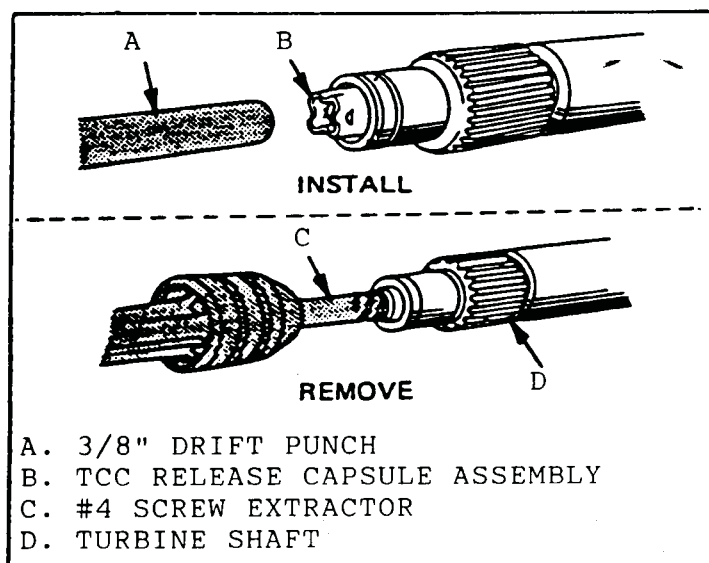

Figure 73
2. Remove the retainer using a #4 screw extractor (Fig. 73).